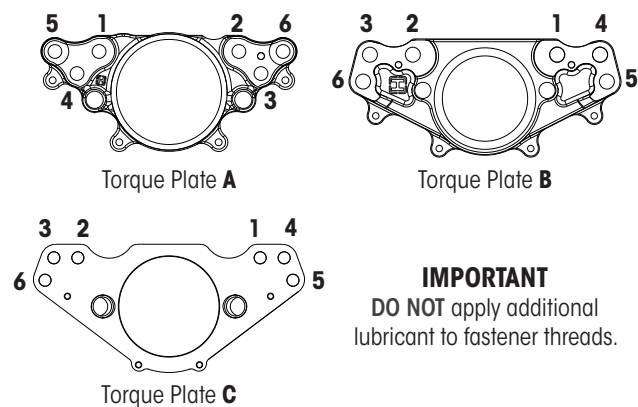

Figure 5: Torque plate torque sequence
6. **Tighten** mounting screws, in sequence shown in Figure 5, to the specified torque listed in Table 1.